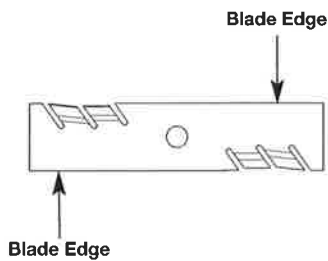

Fig. 15
- Check the blade condition (Fig. 15). As it wears it becomes smaller, thus reducing the cutting depth performance. Replace the blade when it no longer makes contact with the ground.